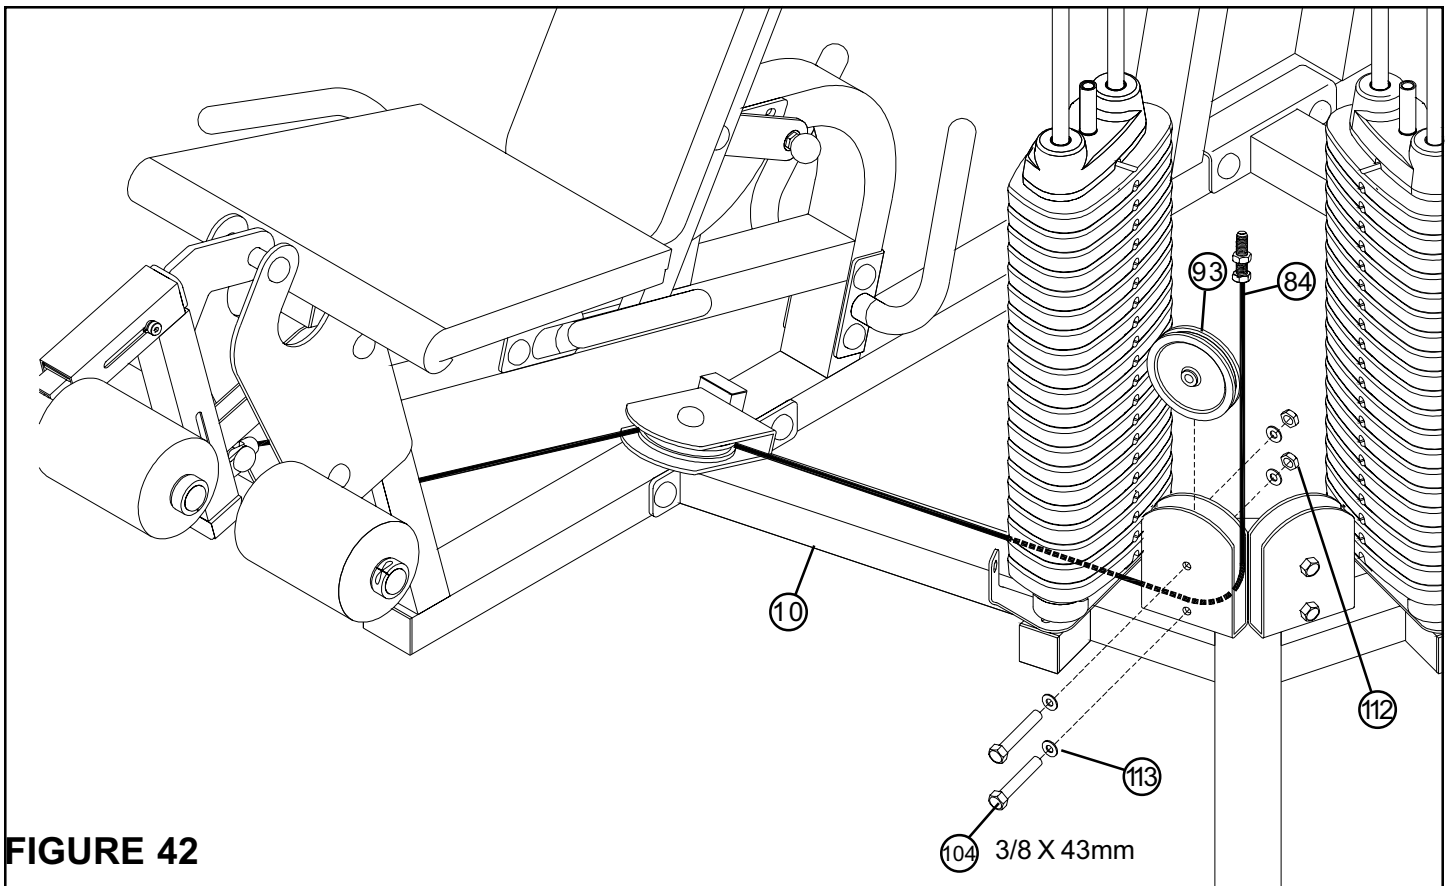

FIGURE 42
- Route the LEG CURL/EXT CABLE (84) under the weight stack and through the bracket on the TOWER BASE (10) and assemble one 4-1/2" PULLEY (93) to the TOWER BASE (10) using two 3/8 X 43mm BOLTS (104), four 3/8" SAE WASHERS (113) and two 3/8" LOW HEIGHT LOCK NUTS (112) as shown in FIGURE 42.